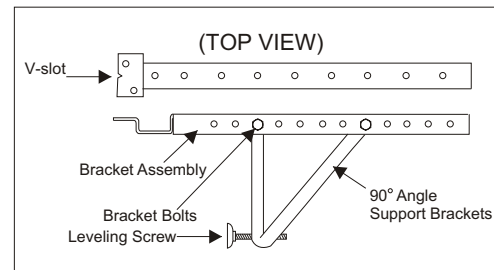

Fig. 5
A. Attach the **bracket assembly** to **90° angle support brackets** (Fig. 5) using (2) **1 1/2" bolts**